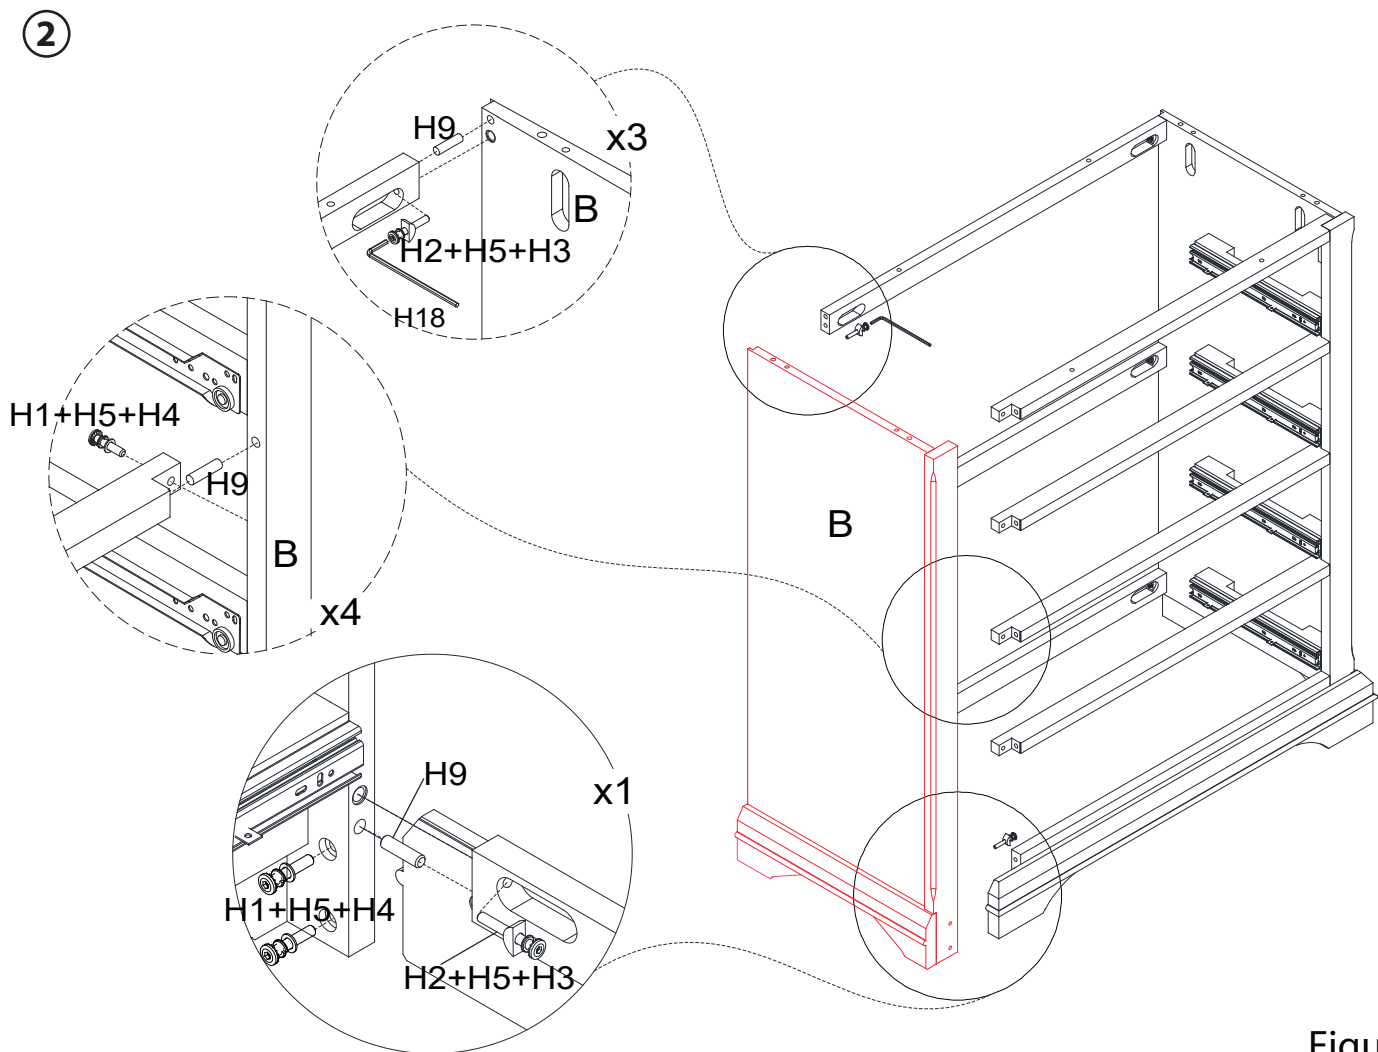

Figure 2
2. Slide Drawer Bottom (R5) and into drawer Bottom Support (R6) assembly as Figure 2.